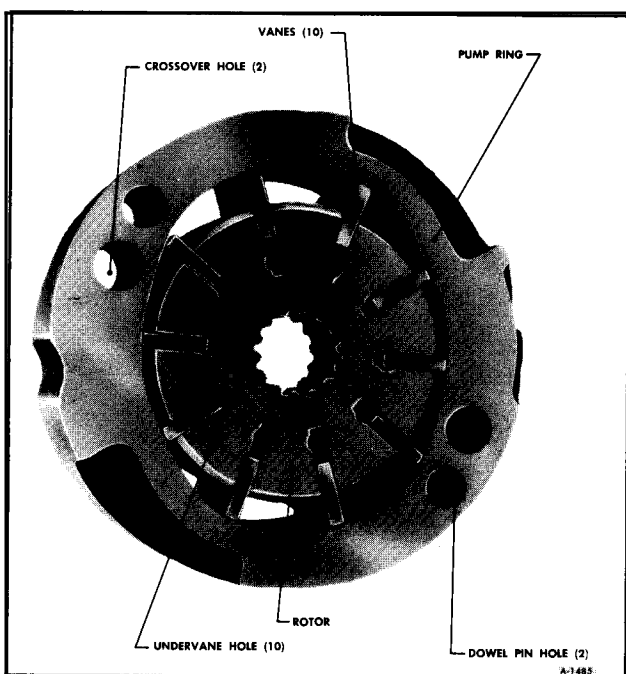
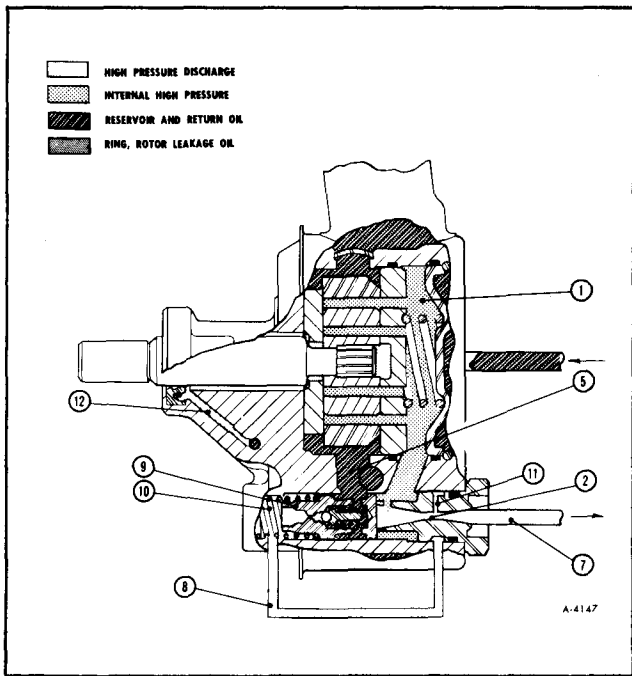

Figure 3—Pump Ring and Rotor
Figure 4—Slow Cornering
The thrust plate (figure 2) is located by two dowel pins on the inner face of the housing. This plate has four central blind cavities for undervane oil pressure. The two outer blind cavities direct discharge oil through the two cross-over holes in the pump ring (figure 3), through the pressure plate, and into cavity 1 (figure 4). The two outside indentations in the thrust plate are for intake of the oil from the suction part of the pump.
The pump ring (figure 3) is a plate having the mating surfaces ground flat and parallel. The center hole is a two lobed cam in which the rotor and vanes operate. The ring is placed next to the thrust plate, and located with the same dowel pins.
connect from cavity 1 (figure 4) to supply undervane oil pressure. The two outer ports pass oil under discharge pressure to cavity 1. The two indentations are for oil intake from the suction part of the pump, cavity 7 (figure 4) into the rotor.
The drive shaft is fitted with a pulley and is belt driven from the crankshaft. The rotor is loosely splined to the drive shaft and secured with a retaining ring. It is located centrally within the ring and between the thrust and pressure plates. The ten vanes are mounted in radial slots in the rotor (figure 3).
As the drive shaft turns the rotor, the vane tips follow the inner cam surface of the pump ring, moving outward and inward twice during each revolution. This results in a complete pumping cycle every 180 degrees of rotation (figure 3). Oil is moved in the spaces between the vanes. As the vane tips move outward, oil is sucked into the intervane spaces through four suction ports in the pressure and thrust plates. The pressure of the oil is raised, and the oil is discharged from the pump ring, as the vane tips move inward. High pressure oil discharges into cavity 1, (figure 4), through two open ports in the pressure plate, and through two blind ports in the thrust plate, which are connected to cavity 1 by the cross-over holes in the ring. A portion of this oil is circulated through the central port system in the pressure plate, forcing the vanes to follow the cam surface of the ring. The ring-rotor leakage oil (12) is used for bushing lubrication and then bled to the reservoir.
Slow Cornering (Figure 4)